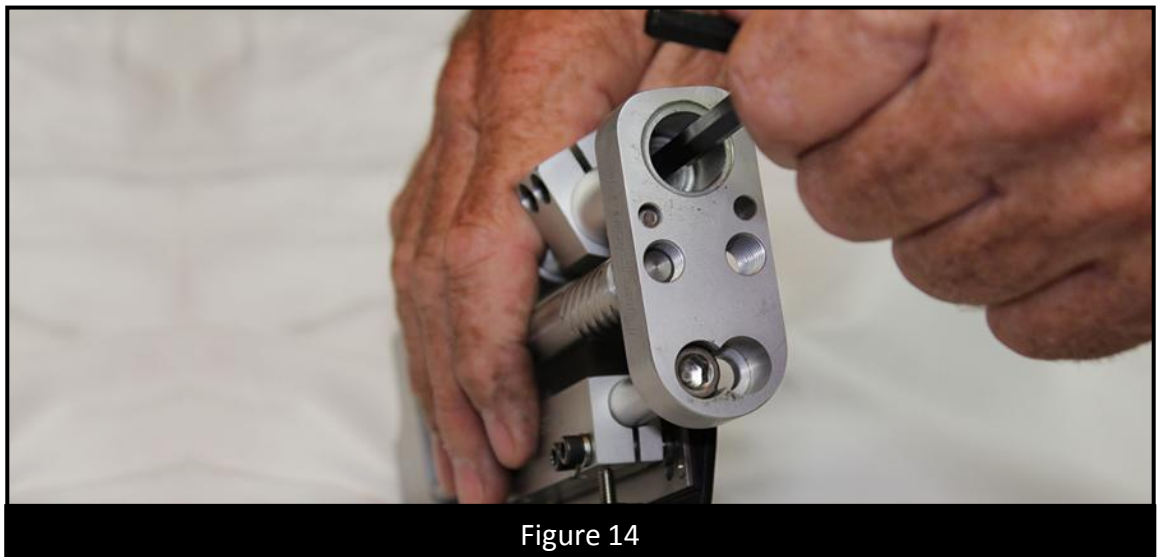

Figure 14
2. With the butt pad unit removed, insert the 1/4" kit into the Allen wrench socket [Ident. 13] located in the hole in the lower tube absorber unit. **(Figure 14)**
You will find a 1/2" long stainless steel socket set screw in your tool kit. We refer to this as a locknut. It is 1/2" long and is threaded on the exterior. This unit goes into the same hole where you make the adjustment on the recoil tension ... the one where you use your 1/4" allen wrench to either tighten. or loosen the tension on the recoil reduction device. (see *Figure 14* page 9). Screw the locknut into the same hole until it just touches the adjuster (don't over-tighten) just let it touch the recoil adjuster screw. This acts like a stop and keeps the recoil adjuster from changing its setting once you have it adjusted. If you have to readjust the device at some later date the locknut that you installed may be a little tight when you try and remove it (you must remove it prior to changing the adjustment) but it will come loose with a little coaxing. Remove it completely and then readjust the recoil reduction device as required.